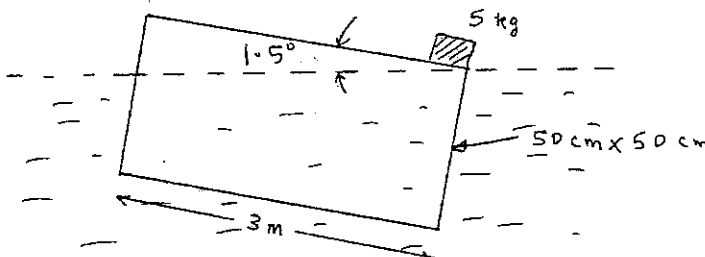

Fig. 2
2. When a 5 kg mass is placed on the end of a floating 50 cm x 50 cm x 3 m wooden beam tilts at  $1.5^\circ$  with its right upper corner at the surface as shown in Fig 2. What is the specific weight of the wood? [12 M]